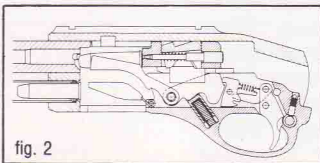

fig. 2
**By returning the pump to the forward position**, the slide pushes the cartridge into the chamber, and locking is performed by the slide. (fig. 2)